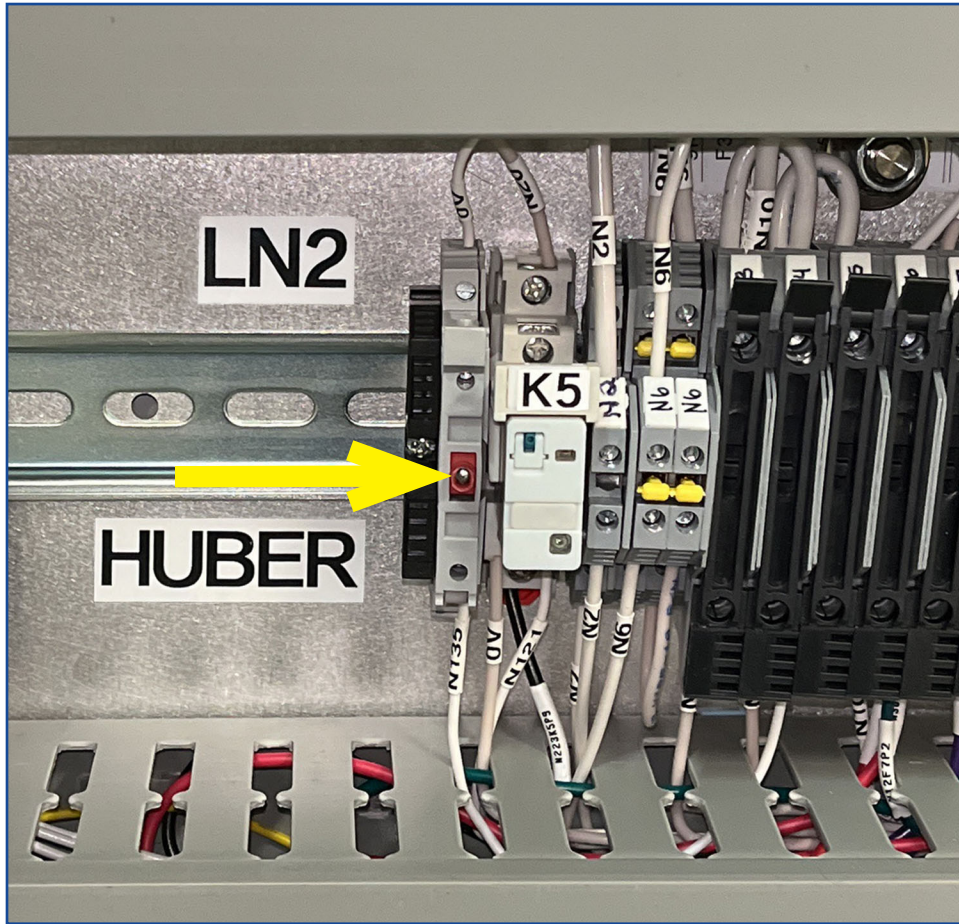

Figure 3 - Toggle mode switch to down (Huber) position
11. Open the ExploraVac electronics enclosure with a 10mm hex wrench. Toggle the mode switch to the up (LN2) position (Figure 3, previous page). Close and lock the door.